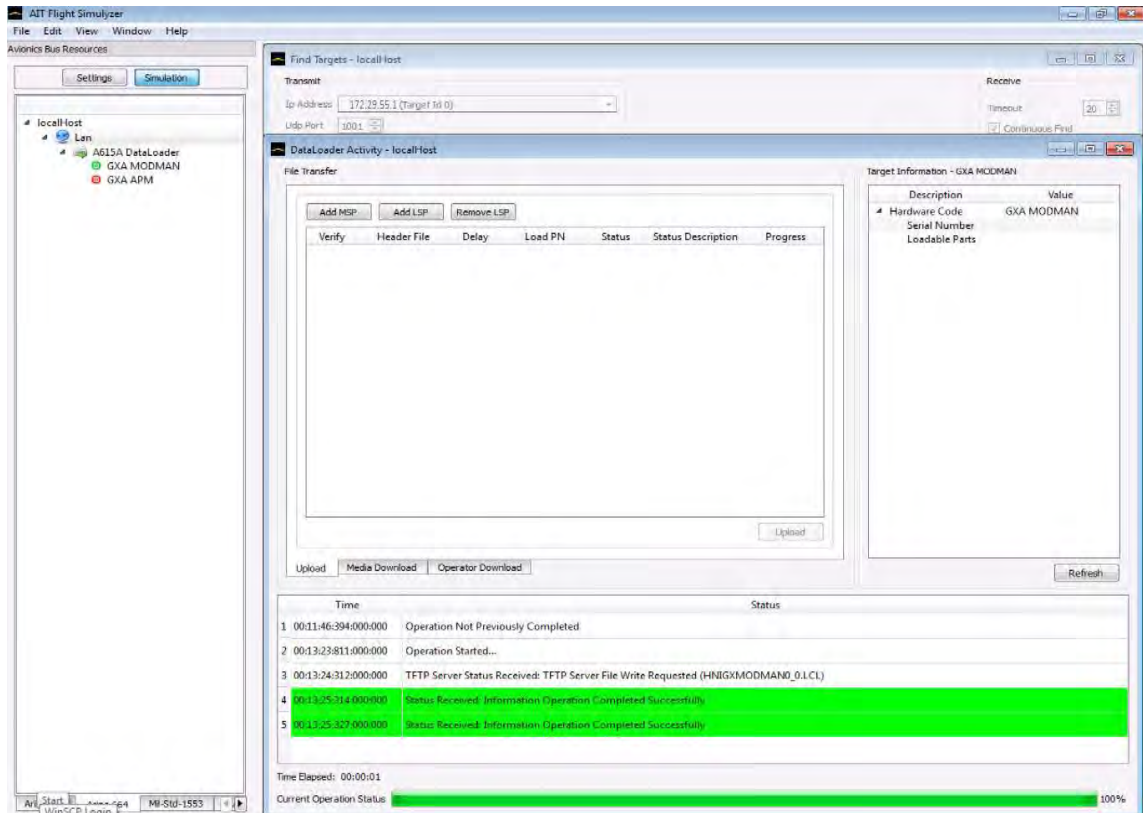

Figure 3-5. AIT F-SIM-LDR ARINC 615A Data Upload Information Dialog Box
- (a) The ARINC 615A UPLOAD operation is used to transfer the data files to the Modman. The AIT F-SIM-LDR ARINC 615A data upload information dialog box screen shot is shown in Figure 3-5.